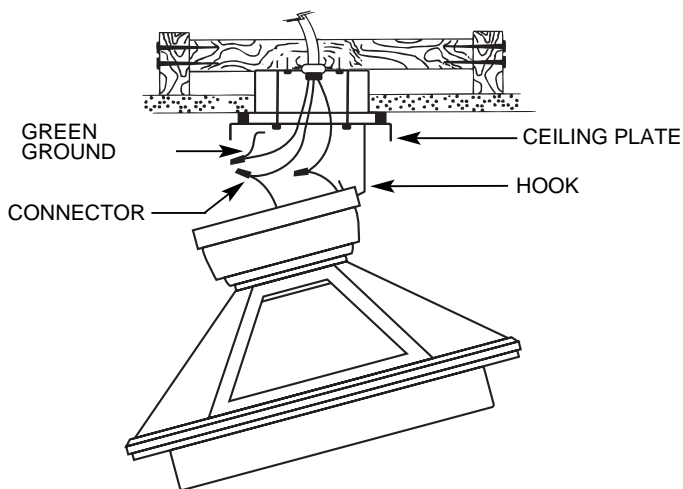

Figure 5A. Hanging the Fan
Using the round hole in the top of the canopy, hang the fan from the hook in the ceiling plate. Make sure both tabs in the canopy remain engaged with the grooves in the ball. Be careful not to scratch the finish while hanging the fan. See Figure 5A.
A. Connect electrical supply leads from the motor, using approved connectors. Connect the black electrical supply lead to the black motor lead and the black with white stripe motor lead (see note). Connect the white electrical supply lead to the white motor lead. Connect the ground wire to the green leads from the pipe nipple and ceiling plate. See Figure 5A.